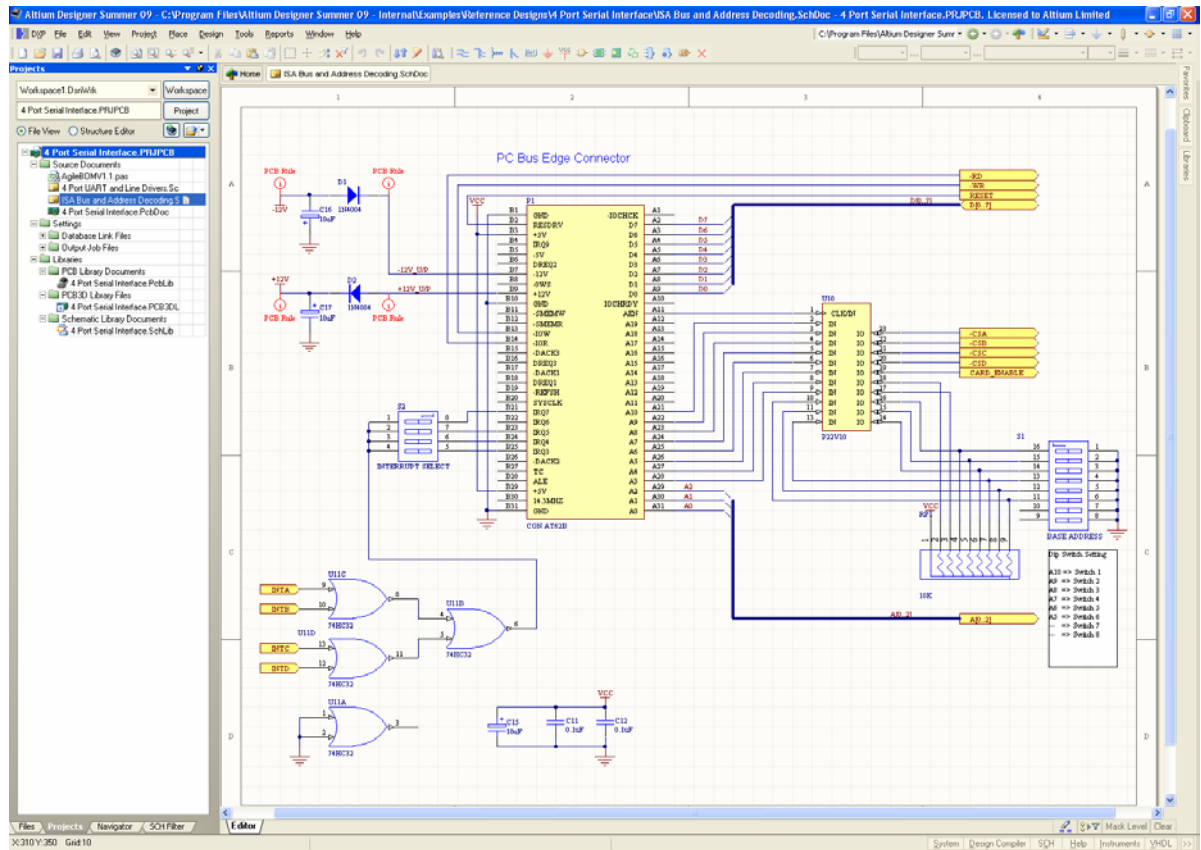

Figure 1. Schematic Editor Workspace
- If not already open, open the following project: 4 Port Serial Interface.PrjPcb, found in the \Altium Designer Summer 09\Examples\Reference Designs\4 Port Serial Interface folder (as shown above in Figure 1), and then open the schematic sheet, ISA Bus and Address Decoding.SchDoc by double-clicking on the document name in the Projects panel.